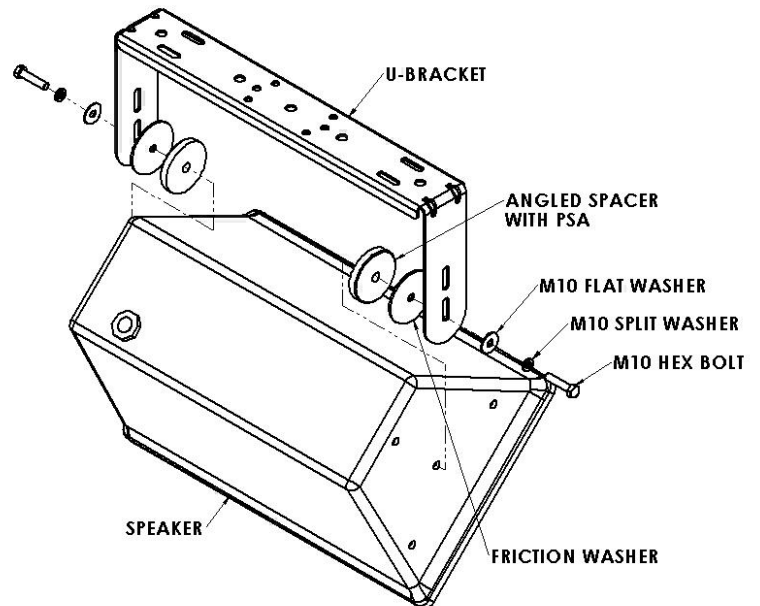

Figure 1
**Step 2:** Peel off the paper and stick the Angled spacer to the center mounting holes of the speaker cabinet. Make sure the holes are lined up and the speaker's tapered side match the angle on the angled spacer to create a flat surface (Figure 1).
the slots in the arms with the sound isolation gasket in between the angled spacer and the bracket. Thread the bolt into the loudspeaker. Repeat on the other side of the speaker (Figure 1). Do not fully tighten yet.